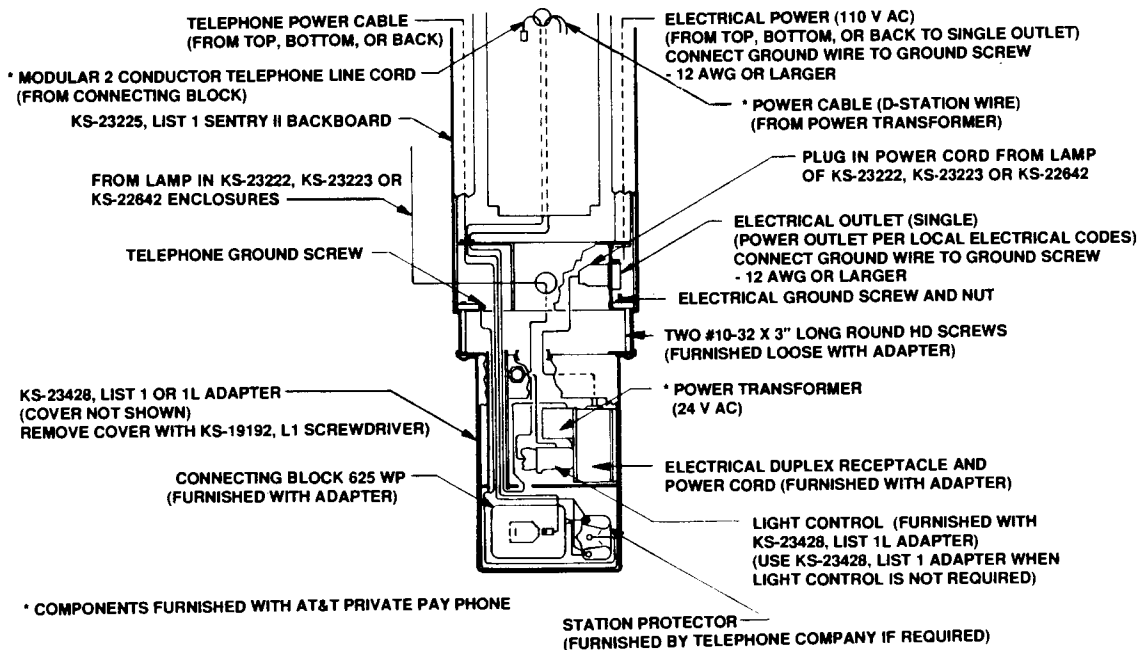

Figure 17 Sentry II Backboard with Adapter
3. Put the 3-inch long spacer screws through the adapter and into the backboard as shown in Figure 17. These screws allow space for wiring.
4. Route and connect wiring as shown in Figure 17.